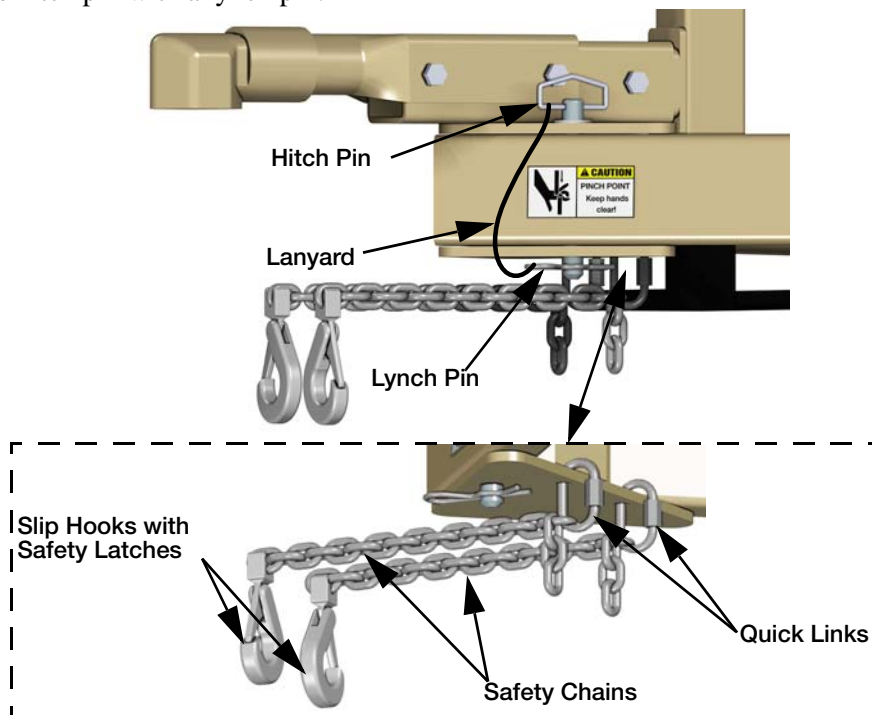

Figure 2-4. Safety Chain and Hitch Pin Locations
1. Connect the two halves of the hitch (Figure 2-4) and install the hitch pin through both left and right hitch members.